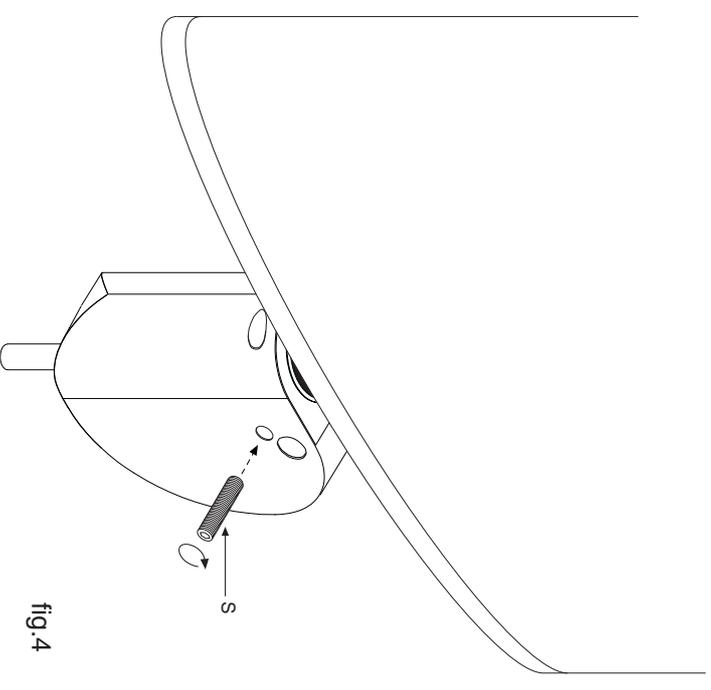

fig.4
3.3 Tighten the screw "S" placed on the rear part of the regulator "R" (Fig.4) in order to fix definitively the regulator to the radiator.